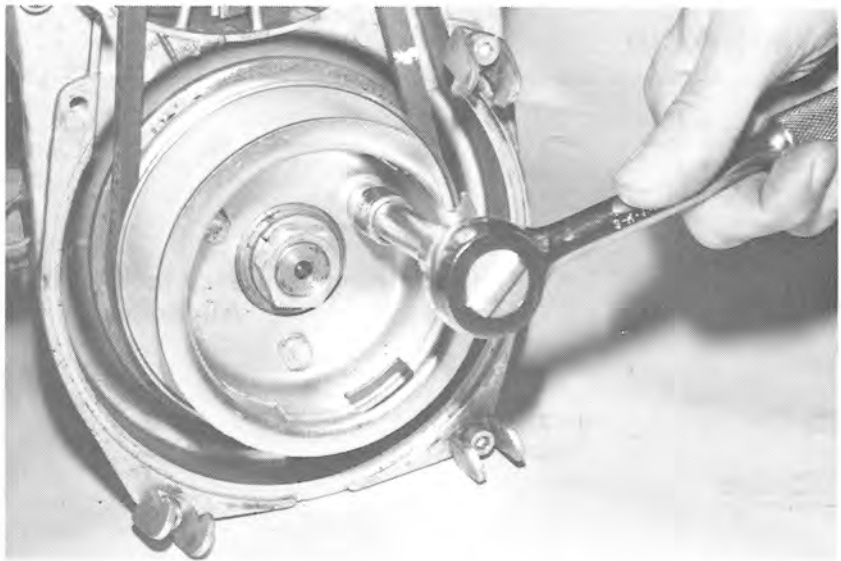

FIG. 1-5
Remove the three (3) hex head bolts on the carrier. Remove carrier, lower pulley assembly and V-belt. See Figs. 1-5, 1-6.